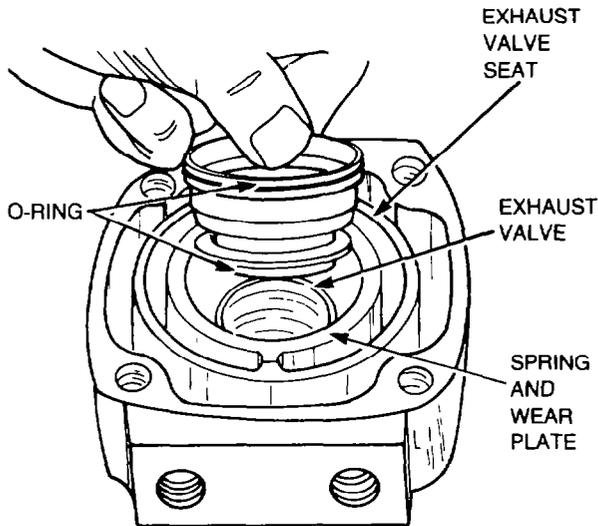

Figure 256 — Exhaust Valve — Installation
k. Install new O-rings on the exhaust valve seat, then lubricate the O-rings with the clean engine oil. Install the exhaust valve seat, wear plate and spring into the cylinder head (see Fig. 256), using thumb pressure to press the exhaust valve into position in the cylinder head.